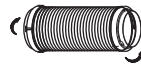

Fig.17
1. Install the window exhaust adaptor B onto the exhaust hose as shown in Fig.17. or Fig.18. Refer to the previous pages for window kit installation.